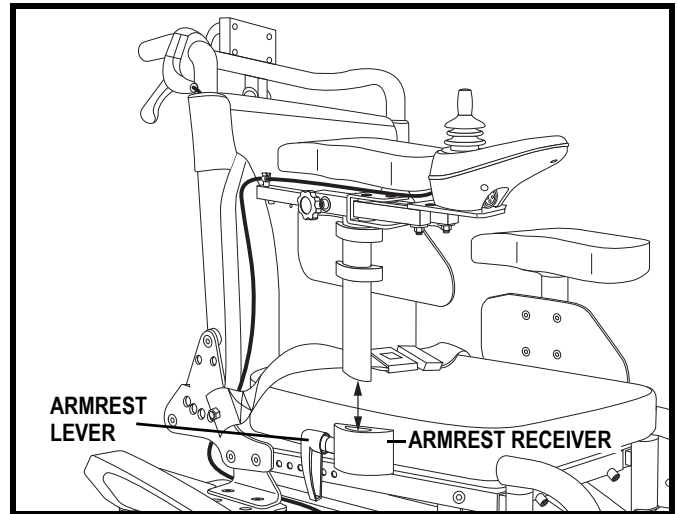

Figure 15. Armrest Removal/Installation
1. Loosen the armrest lever by pushing the armrest lever in and rotating the lever simultaneously. See **figure 15**.
1. Place the armrest assembly into the armrest receiver. See **figure 15**.
1. Loosen the armrest lever. See **figure 15**.
2. Remove the armrest. See **figure 15**.